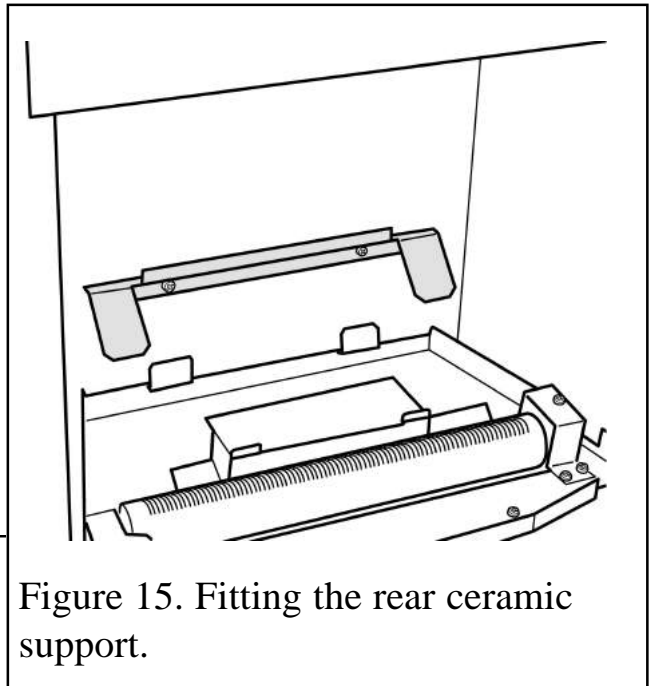

Figure 15. Fitting the rear ceramic support.
8. This appliance is supplied with a rear ceramic support bracket. Fit this using two screws supplied (See figure 15)